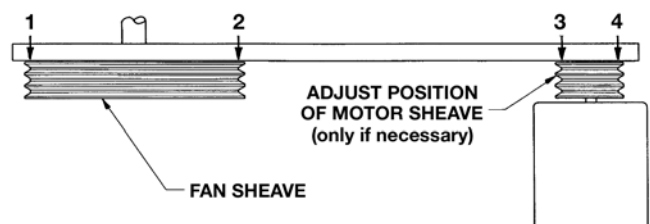

Figure 24 – Sheave Alignment Check
9. As a final check, lay a straight edge from sheave to sheave. There should be four point contact. (See Figure 24.) Adjust the position of the motor sheave as necessary.